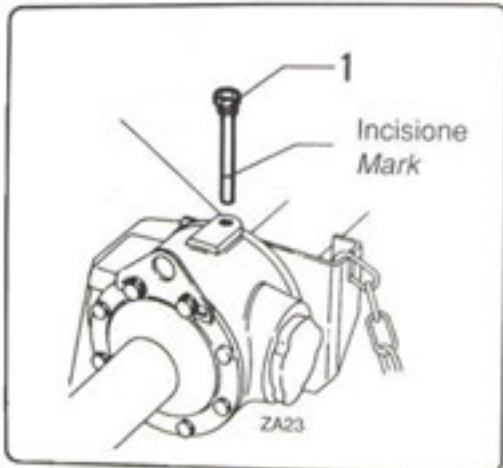

fig. 7.4.3
Check the level of the lubricant in the gearbox through the inspection plug (fig. 7.4.3 pos. 1) and top up to the mark on the rod if necessary.